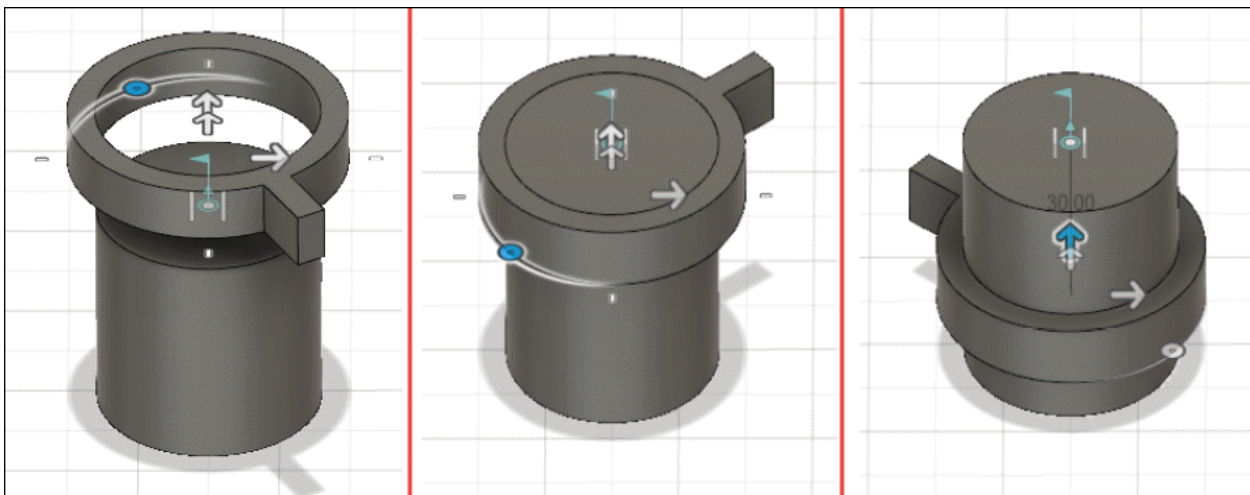

Figure-18. Cylindrical motion
- Click on the **Cylindrical** option from **Type** drop-down in the **Motion** tab of the **JOINT** dialog box, if you want to assemble the component in such a way that it is free to move along the selected axis and free to rotate about the same selected axis; refer to Figure-18.